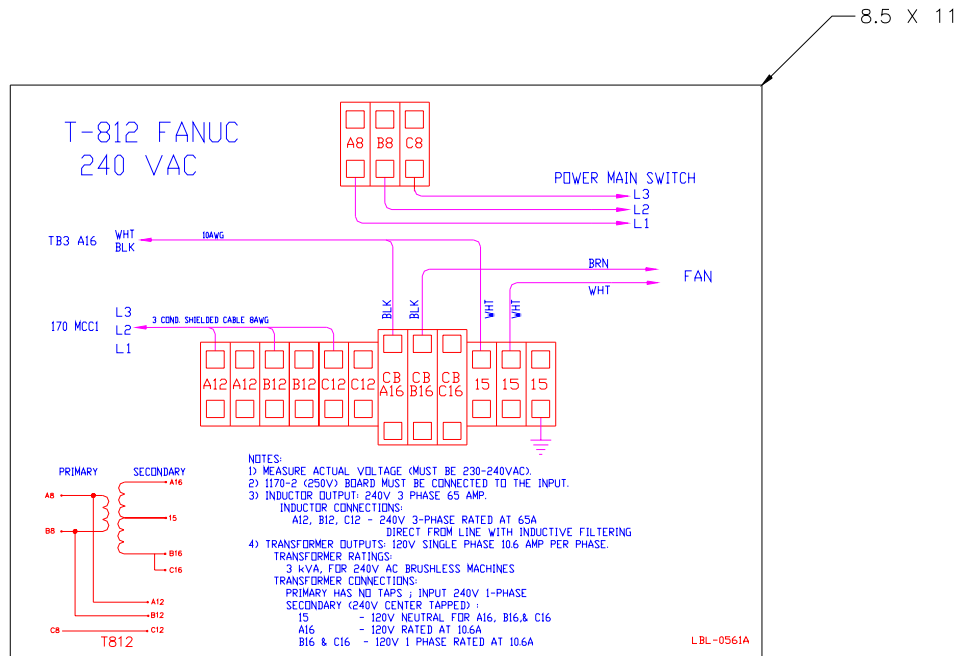

Figure 3-3:
3. Identify the jumper and AC input locations. Use *Figure 3-3* through *3-5* for three phase and single phase transformers.